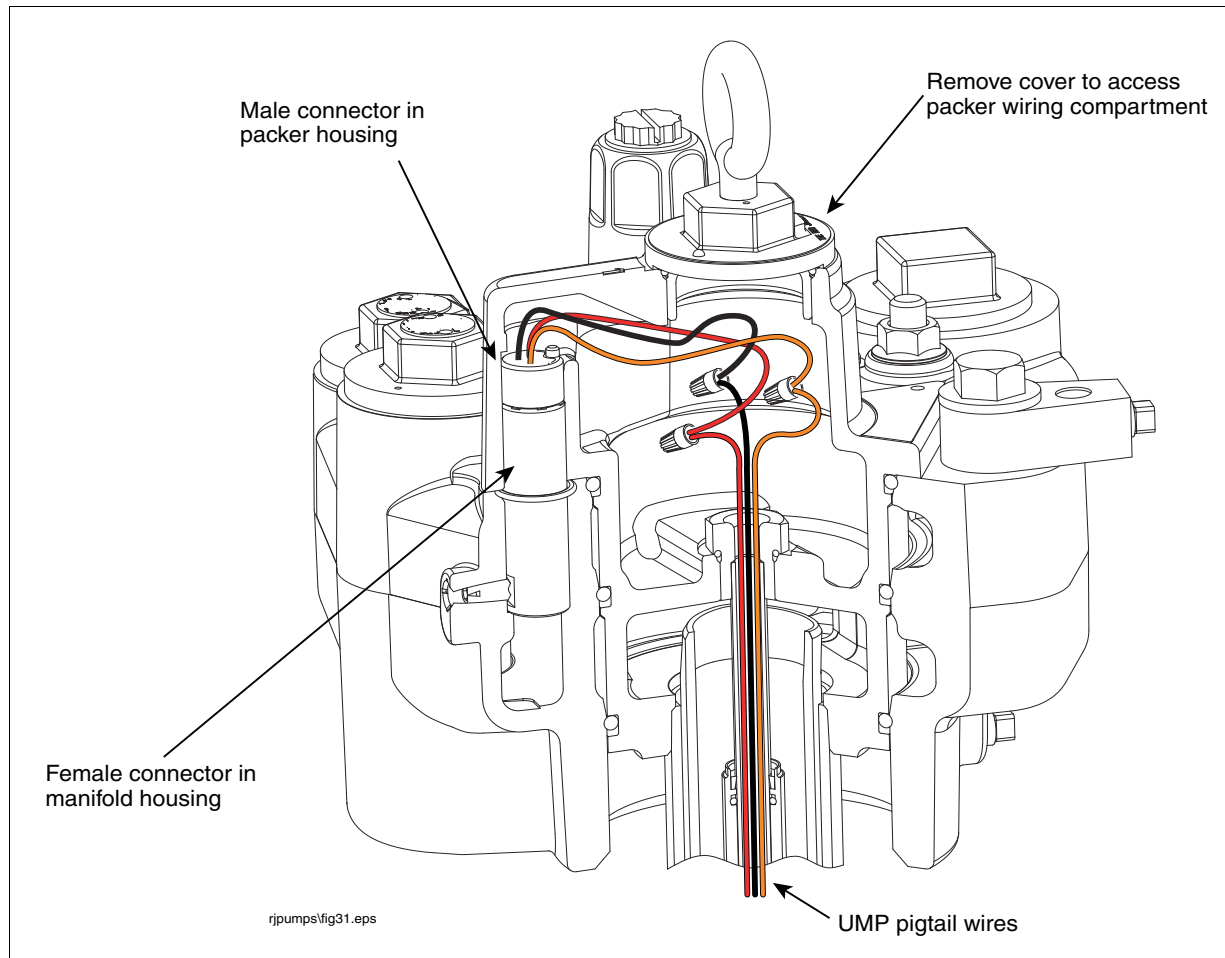

Figure 16. Connecting UMP To Packer Wiring
12. Connect like colored wires from the UMP to like colored wires from the male connector with wire nuts. When finished connecting the wires, neatly coil wires inside the packer's wiring compartment (see Figure 16).
rijumps/fig16.eps